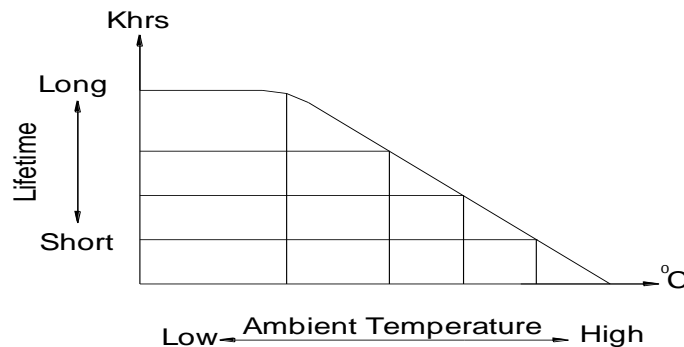

Figure 6.2: Lifetime of the power supply versus ambient temperature
- (1)** High frequency and high efficiency switching technology, improvement of components, and integration with up to date technology can reduce the size of the S.P.S. But, components must also populate the PCB at higher density. The lifetime of components on a S.P.S. will vary significantly due to differences in ambient temperature. When an electrolytic capacitor is used for filtering, its internal chemical reaction will raise the surface temperature. Lifetime of the electrolytic capacitors is sensitive to ambient temperature.
- (2)** In general, the lifetime of the electrolytic capacitors will be reduced by half for every  $10^{\circ}\text{C}$  increase in the ambient temperature. On the contrary, when temperature goes down  $10^{\circ}\text{C}$ , it's life time will be doubled. Figure 6.2 describes the relationship between lifetime of the power supply and ambient temperature. If the S.P.S. is continuously operated in high temperature environment, the electrolytic capacitors will enter the "fatigue failure period" earlier while in the mean time the other components are still at the "random failure period". To extend the lifetime of this S.P.S., we need to replace all the electrolytic capacitors.